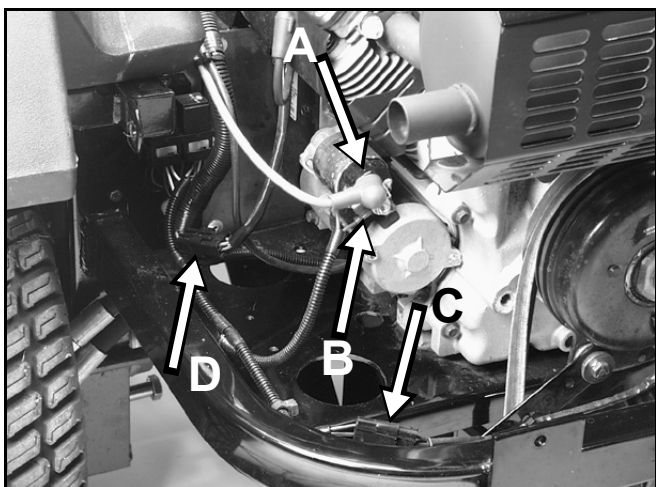

Figure 21
4. Remove the battery cable, main power feed, and solenoid wire from the starter solenoid (Figure 21).
5. Disconnect the PTO clutch electrical plug and main wiring harness connector (Figure 21).